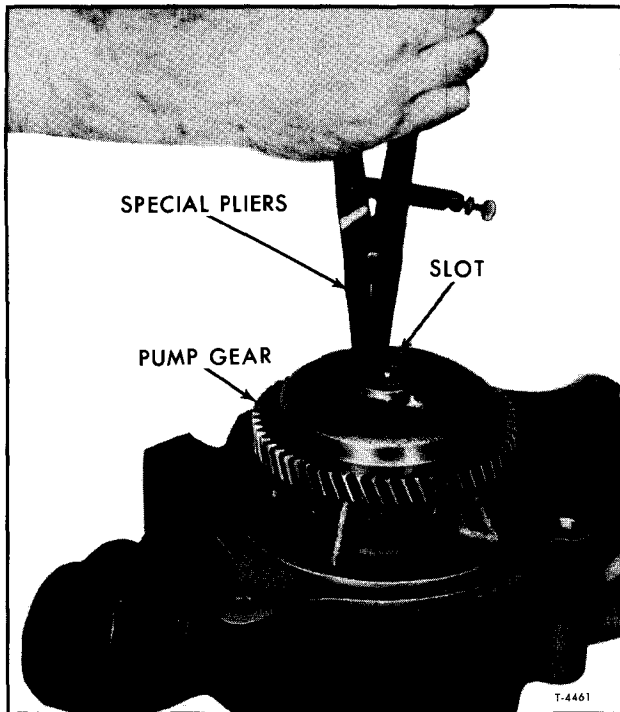

Figure 41—Removing Retaining Ring with Special Tool (J-4646)
c. Place the adhesive washer in the impeller bond area with the ceramic insert on top. The polished face of the ceramic insert should be visible to the assembler (fig. 41).
1. Turn the pump gear so the slot is over the ends of the bearing retaining ring, insert pliers (J-4646) into the slot and with the aid of a small screwdriver remove the ring from the groove (fig. 41).